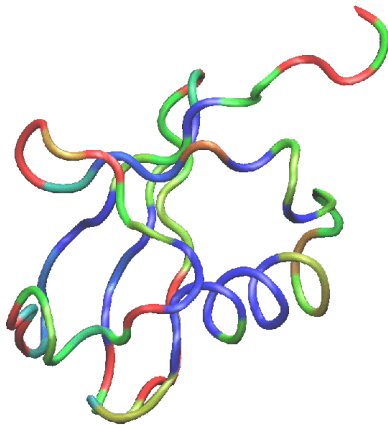

Figure 9: Ubiquitin colored by the average RMSD per residue. Red denotes more mobile residues, and blue denotes residues which moved less during equilibration.
- * **9** Choose the Graphics → Colors... menu item. Choose the Color Scale tab. In the Method pull-down menu, choose BGR. Your figure should now look similar to Fig. 9.